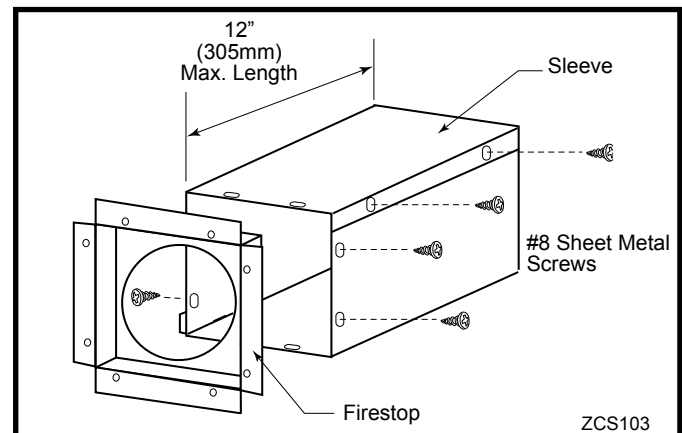

Fig. 23 Assemble the wall sleeve and firestop.
3. Install the Wall Firestop/Sleeve assembly into the wall cutout and fasten the firestop to the wall cutout framing members. (Fig. 23)